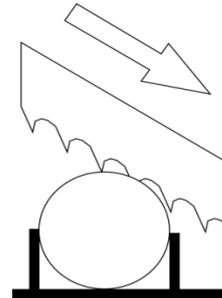

Figure 8-9: Blade Cutting Direction
- Assemble the new blade by placing it first between the pads and then on the race of the flywheels, paying particular attention to the cutting direction of the teeth (Fig 8-9).